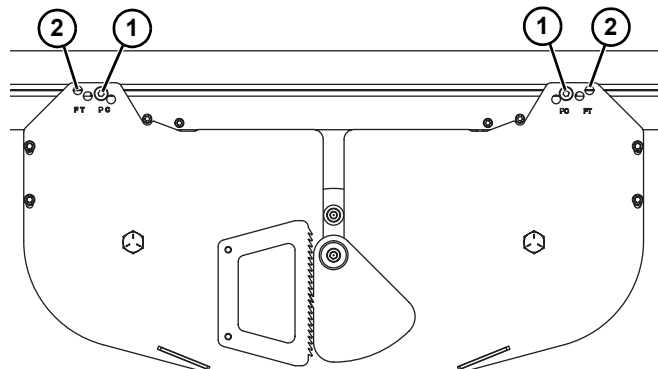

Figure 65
- For standard belt use these holes (**Figure 65, item 1**).
- For friction insert belt use these holes (**Figure 65, item 2**).